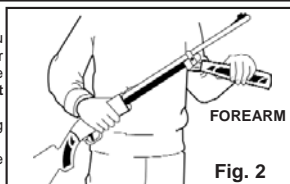

Fig. 2
- Open the forearm all the way until it stops (Fig. 2). Be sure to hold the forearm firmly as you open it. It could spring back into the closed position, possibly causing injury. Place your hands in the same positions shown in Fig. 2 in order to avoid being pinched, should you lose hold of the forearm. Do not twist the forearm while pumping. Use straight strokes to prevent breakage.